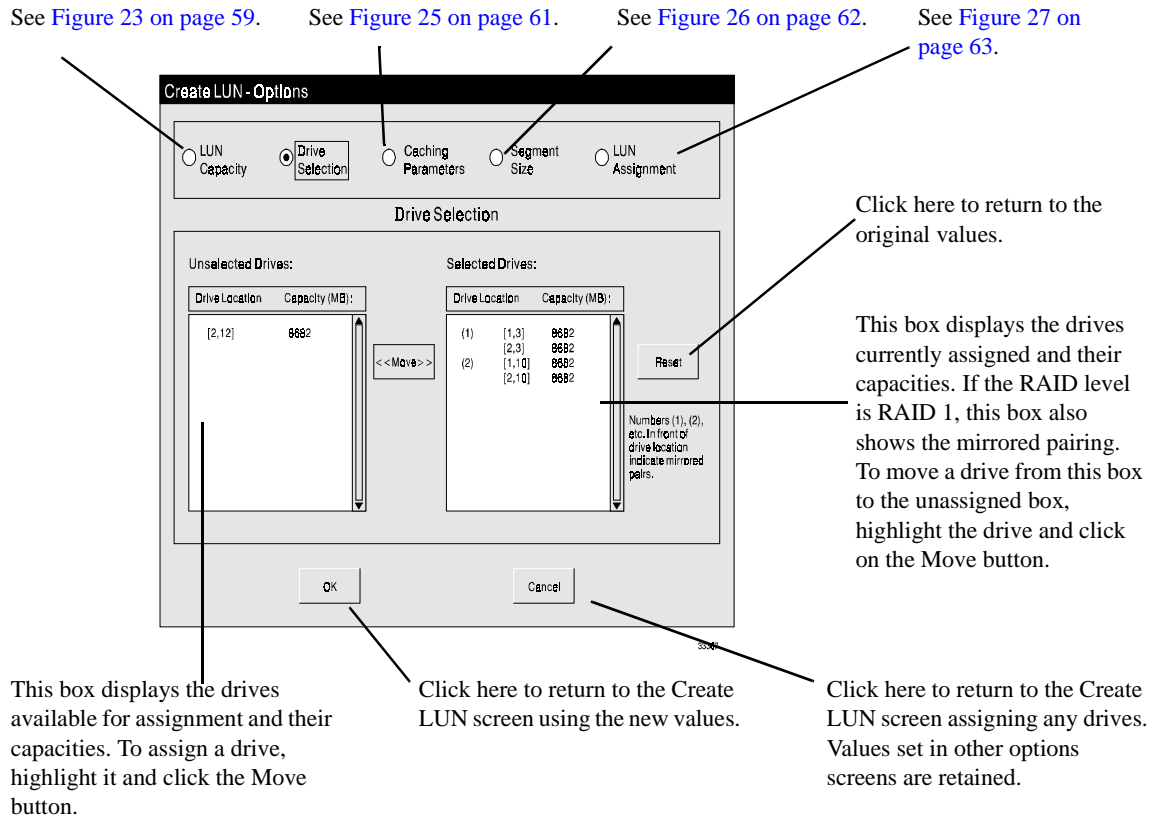

Figure 24. Drive Selection Screen
- The drives in the LUN (see Figure 24 on page 60).
See Figure 24 on page 60.